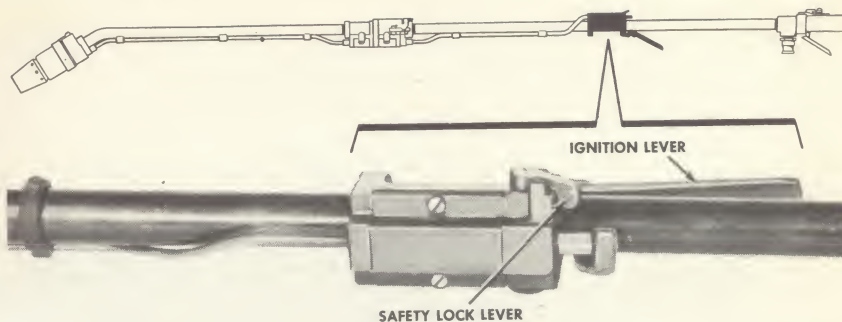

Fig. 35. Ignition controls.
(2) Ignition lever assembly. (a) Unscrew ignition lever pin. Remove pin and lever (figs. 35 and 36).